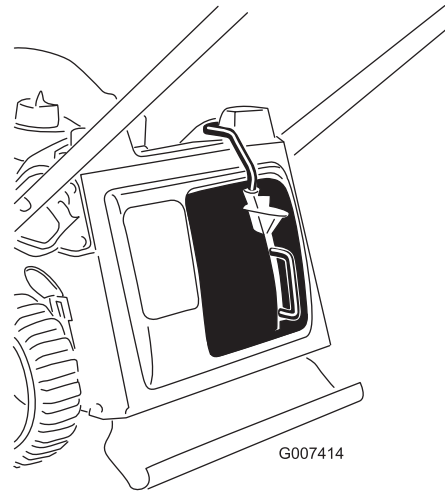

Figure 12
3. Release the button on the lever and ensure that the top of the lever lies fully in the switch channel (Figure 12). **If the top of the lever is not in the switch channel, your machine will not start.**